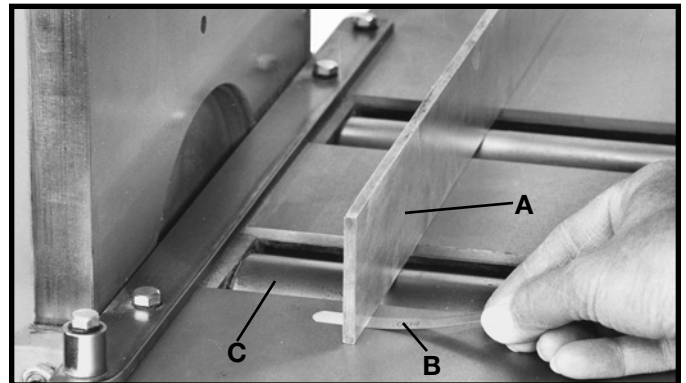

Fig. 23
3. With a feeler gage (B) Fig. 23, measure the gap between the table surface and the straight edge (A) near the infeed roller (C).